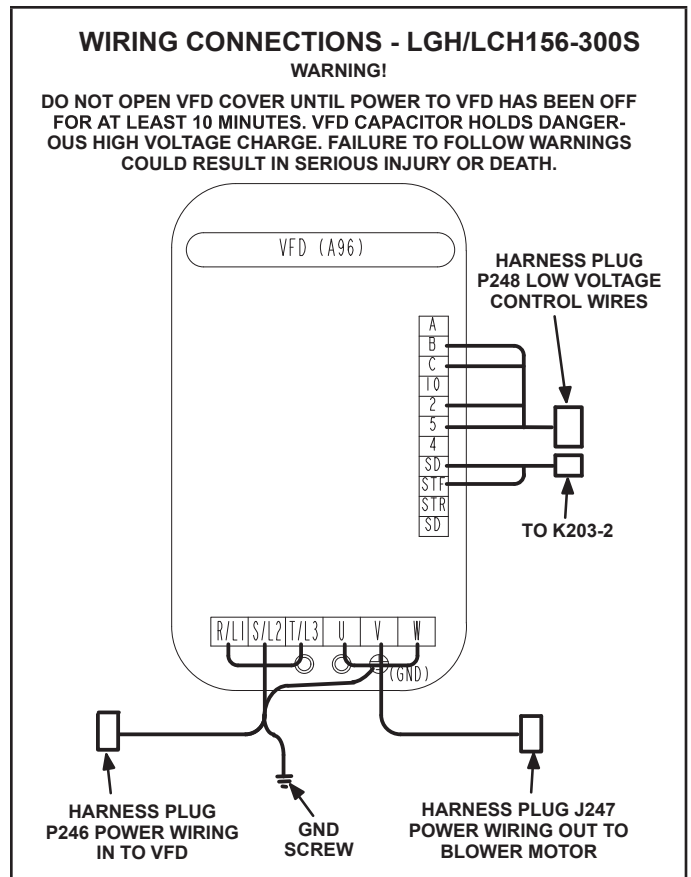

FIGURE 6
- 2 - Open the lower cover on the VFD to access wire connections. Disconnect the wires from the terminals, making special note of the wire color and stamping that was connected to each terminal. See figures 6 through 10.